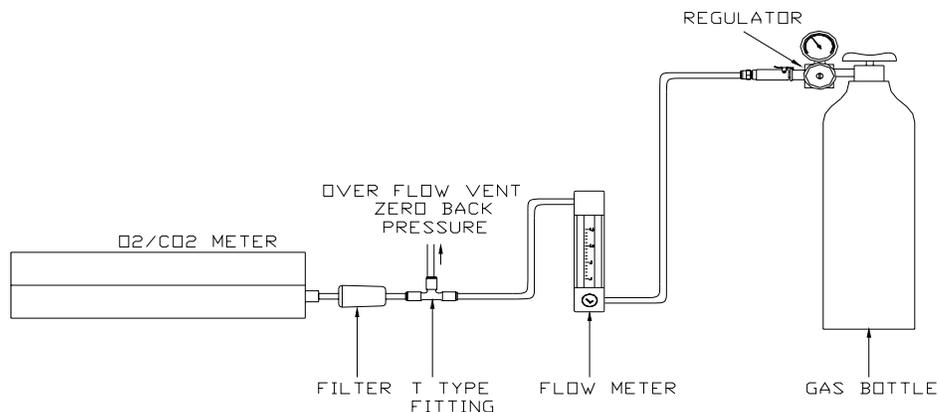

FIGURE 1 – Calibrating Connection
4. To supply gas from a pressurized bottle, a pressure regulator, a needle valve, a gas flow meter and an inlet pipe are required. The output pressure from the regulator should only slightly exceed the ambient pressure. Never connect an unregulated cylinder or other pressure source to the meter, as the high pressure may damage the instrument. The whole calibration system is shown in FIGURE 1.